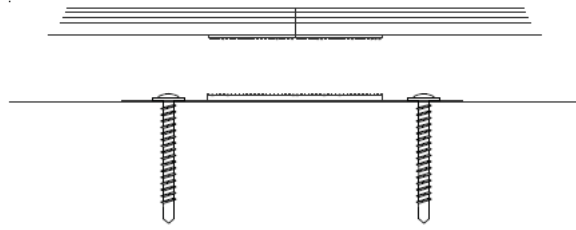

Figure 14
STEP 24. Using the anchors provided by the factory, attach the lockdown plate to the substrate so that it is aligned with the fl exible lock strips on the mats treads (see Figure 14).